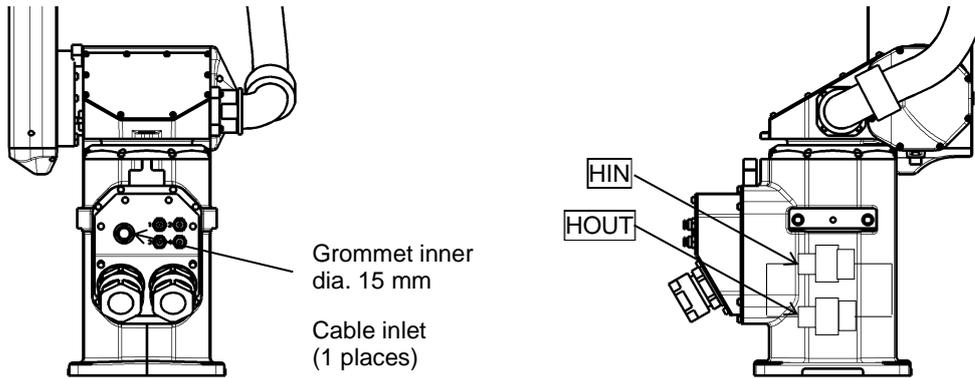

Fig. 11.1. Wiring to PLC, etc.
Four input signals are provided for sensors, etc. and four control signals for solenoid valves, etc. A supply power signal of 24 VDC is also provided. They are connected to the controller. The wiring arrangement for these cables is shown in Fig. 11.1. The wires are connected to the connectors on the arm 2 (1). The customer should provide the following connectors to connect the cables.
If the separately installed sequencer or the like is used for control, remove the connector panel of the base portion and separate the connectors HIN and HOUT on the rear. Then connect the cable of the sequencer or the like through the cable inlet of the connector panel. (See Fig. 11.1.) For ahead of the HIN and HOUT connectors, the user should prepare the following plug connectors and connect the cables. The current is 1 A or less per cable.